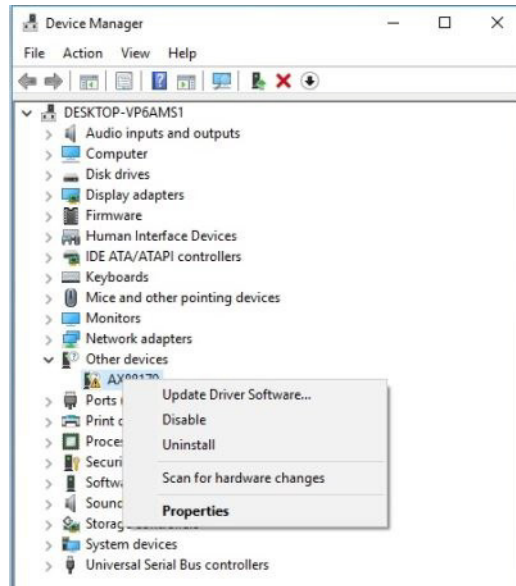

Figure 9. Select “Update Driver Software”
4. Right-click on the AX88179 device and select “Update Driver Software”. See Figure 9.